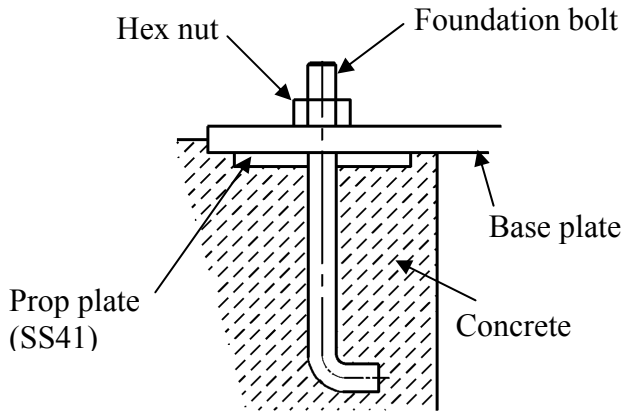
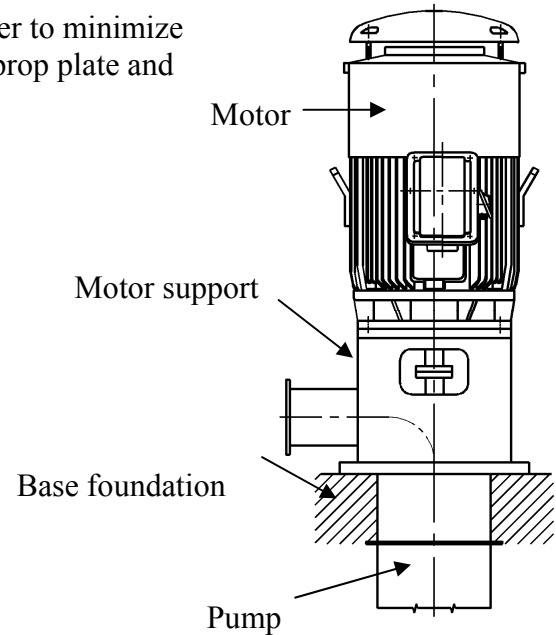

Fig. 6
Fig. 7
- (b) A massive concrete foundation is preferred in order to minimize vibration. Rigidity and stability are enhanced by prop plate and foundation bolt. As shown in Fig.6 and Fig.7.